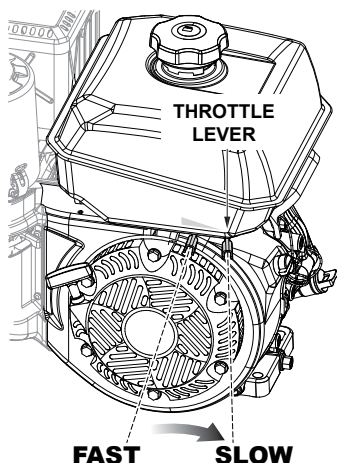

Figure 23. Throttle Lever (Idle)
1. Place the throttle lever (Figure 23) in the slow (idle) position, and let the engine idle 3~5 minutes.